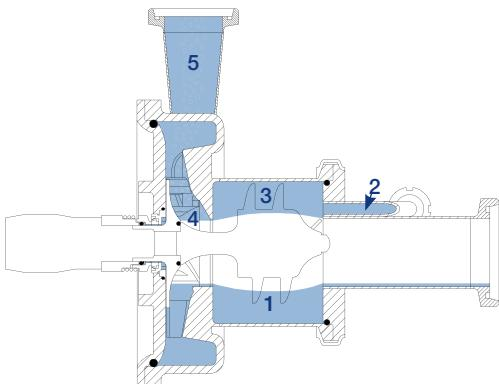

Fig. 4.1.4s Alfa Laval LKH Prime Pump
Its principal of operation is that as the Alfa Laval LKH Prime pump starts up, the centrifugal force generated from the rotation of the air screw and the initial priming liquid causes the formation of a liquid ring in the pump head canister (1). This also fills the recirculation pipe (2), thereby achieving the initial prime (Fig. 4.1.4s).